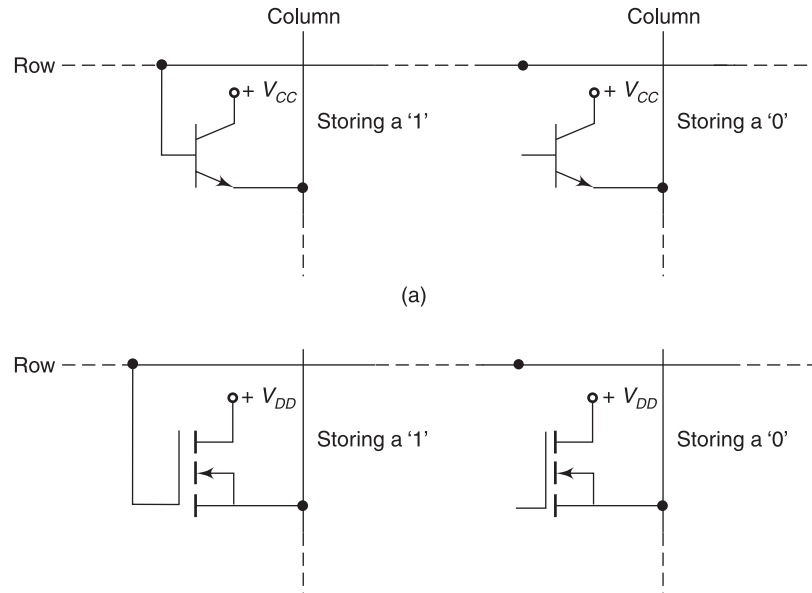
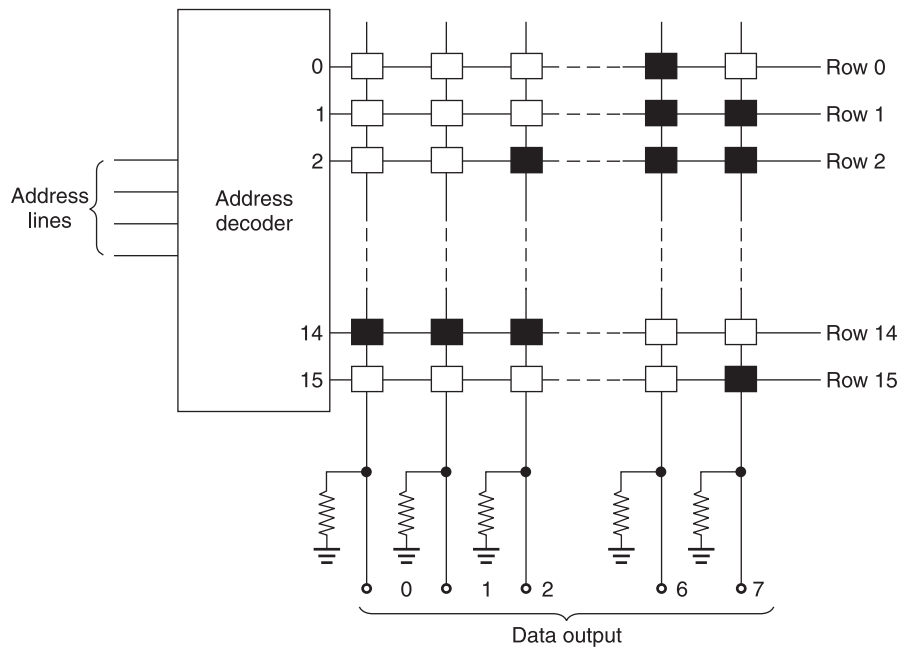

Fig. 5.4 ROM (a) Bipolar cells, (b) MOS cells
Fig. 5.5 A 16 × 8-bit ROM array
A ROM is permanently programmed during the manufacturing process to provide widely used standard functions such as popular conversions or to provide user-specified functions. Once the memory is programmed, it cannot be changed. The logic 1 or 0 is represented by the presence or absence of a transistor connection at a row/column junction as shown in Fig. 5.4(a). Presence of a connection from a row line to the base of a transistor represents a 1 at that location because when the row line is taken HIGH, all transistors with a base connection to that row line turn on and connect the HIGH (1) to the associated column lines. At row/column junctions, where there are no base connections, the column lines remain LOW (0), when the row is addressed.
Figure 5.4(b) illustrates MOS ROM cells. The presence or absence of a gate connection at the junction permanently stores a 1 or a 0. A simple ROM array is shown in Fig. 5.5. The blank squares represent that 0s are stored and the dark squares represent that 1s are stored. When a binary address is given to the address